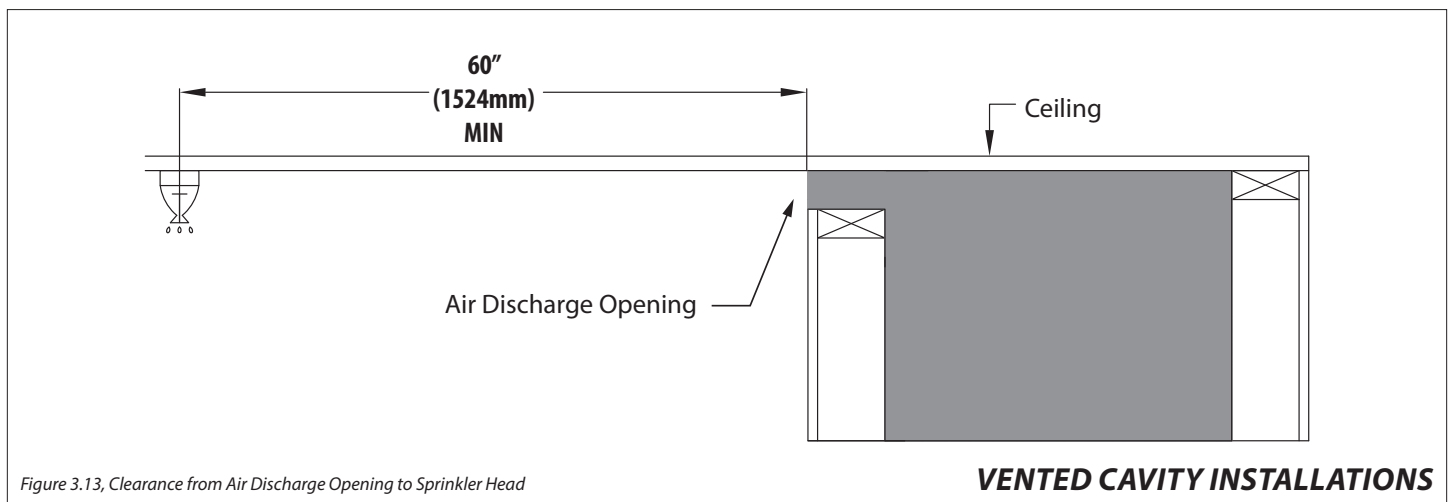

Figure 3.13, Clearance from Air Discharge Opening to Sprinkler Head
- In a situation where a sprinkler head is installed within the proximity of a vented cavity air discharge opening, Figure 3.13 MUST be followed.